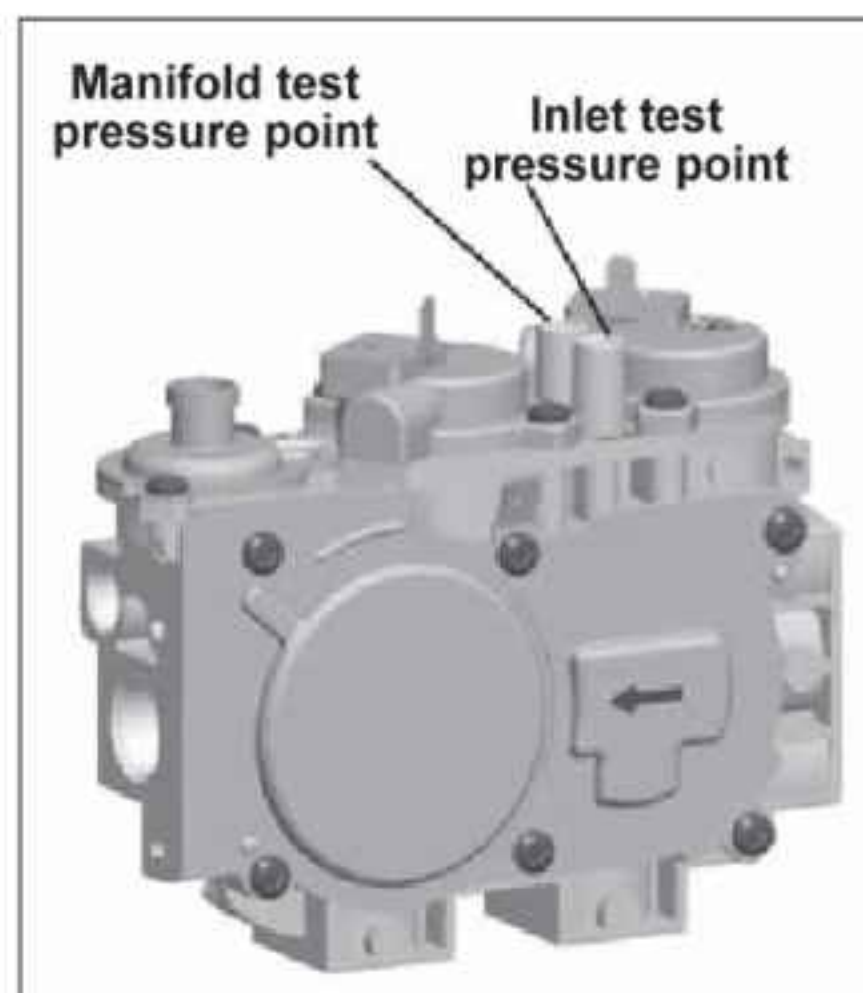

Figure 59: Pressure Test Points.
- b. Place a 1/4" silicone tube over either pressure port on the valve (refer to Figure 59). Attach the tube a mono meter.